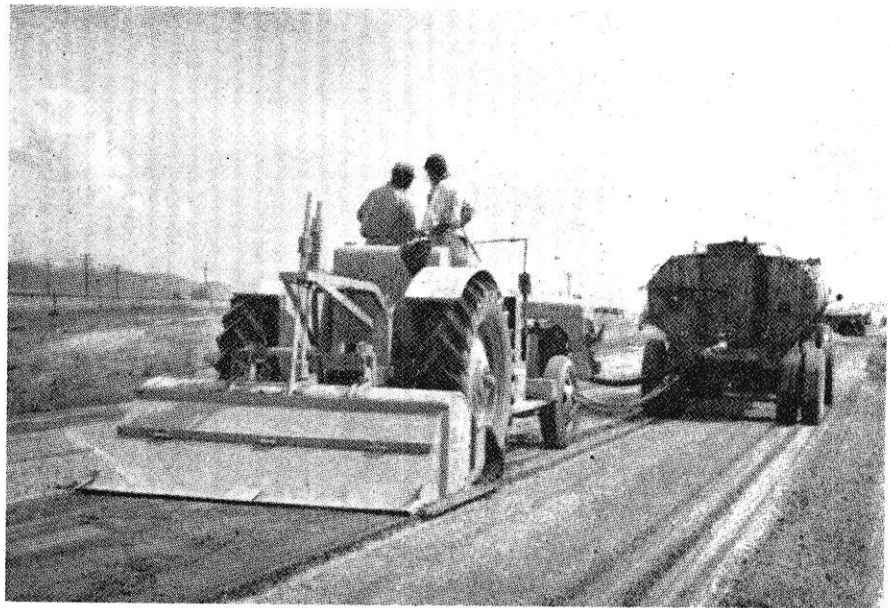

Fig. 9—Multiple-pass rotary mixer (from PCA)
3. **Multiple-Pass Rotary Mixer** (Fig. 9)—This mixer, as the name implies, differs from the preceding two in that several passes of the mixer are required. The cement is